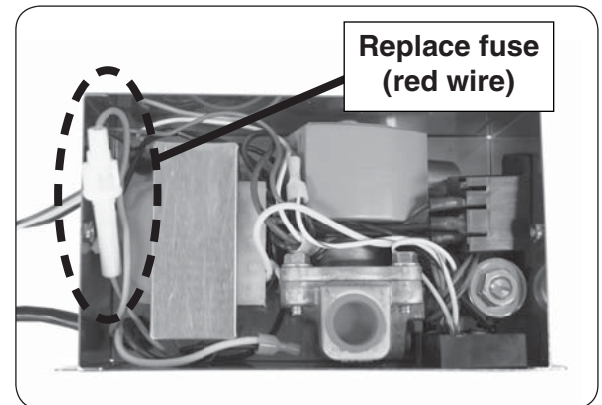

Fig. 47-3 Replace fuse
5. "Push in and twist" the fuse holder (red wire), exposing the fuse (see Fig. 47-3).